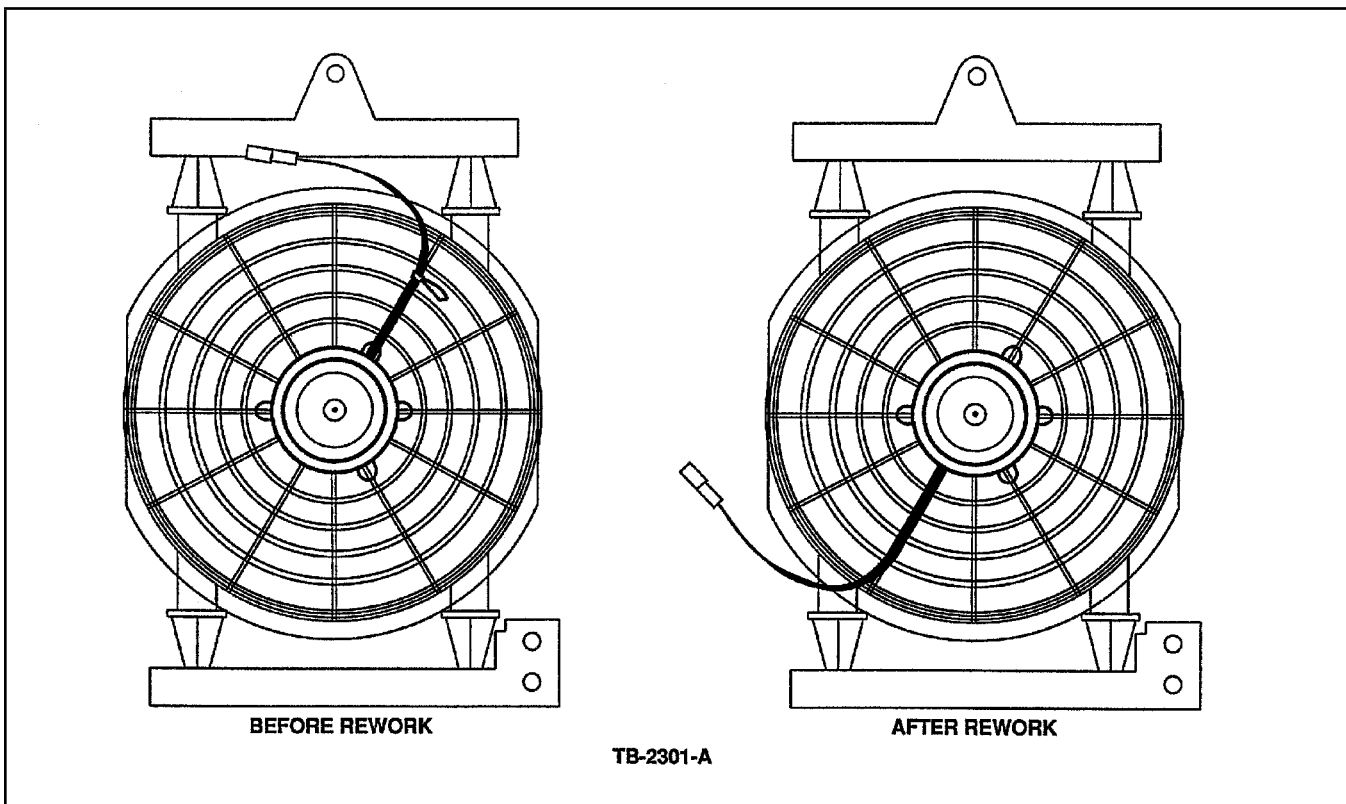

Figure 1 - Article 91-24-9
2. Remove the (2) bolts securing the motor to the fan shroud.
3. Rotate the motor 180 degrees so that the leads are in the 7 o'clock position. Refer to Figure 1.
4. Replace the (2) bolts securing the motor to the fan.
- b. Remove the bolts (2) that hold the fan to the shroud, save the (2) screws for reinstallation.
- c. Rotate the fan motor 180 degrees so that the motor leads are in the 7 o'clock position, Refer to Figure 1.
- d. Replace the (2) bolts securing the motor to the shroud.